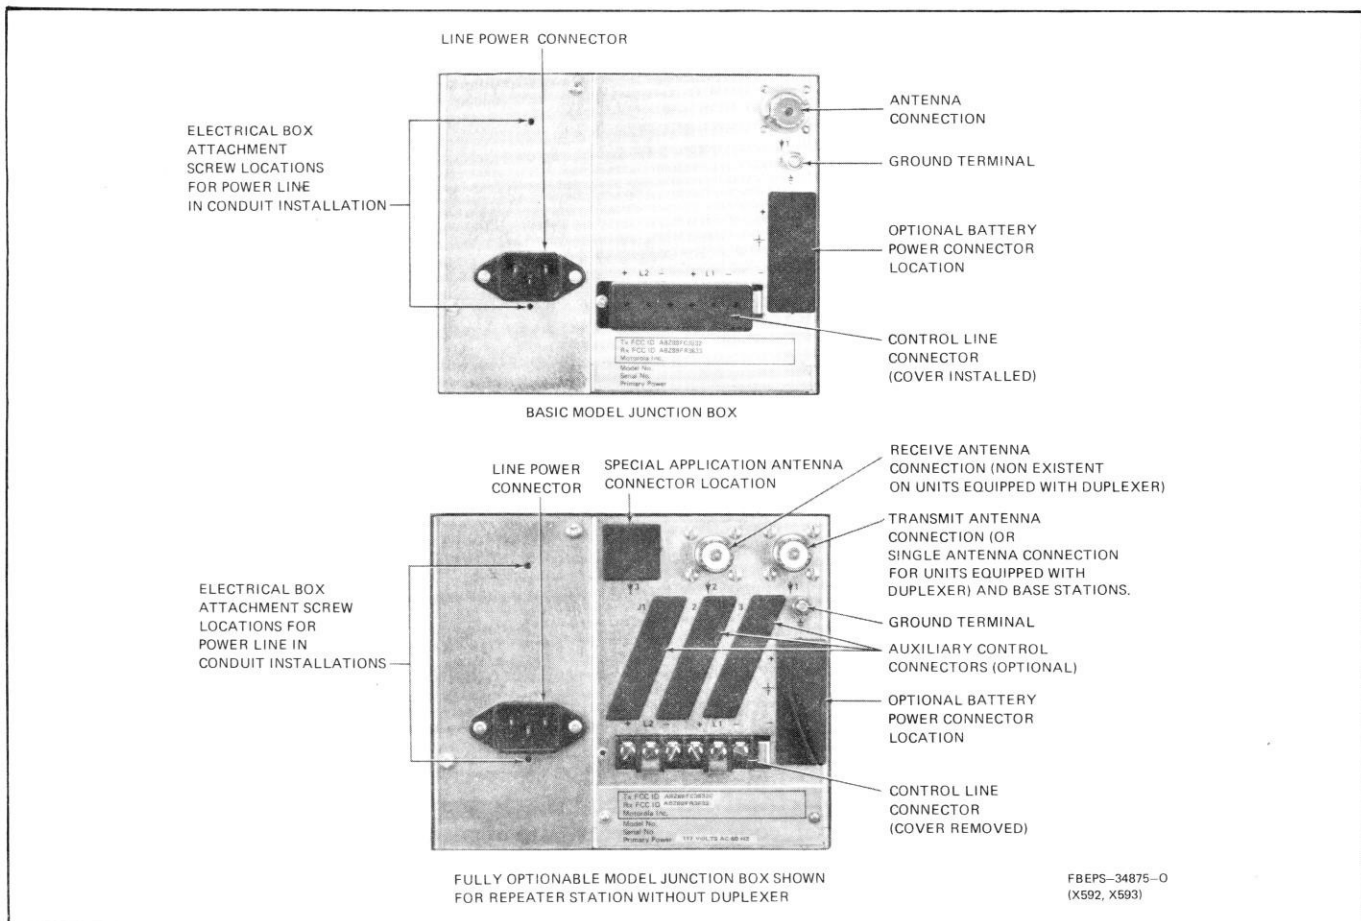

Figure 2. External Connection Details
6.1.3 All coaxial antenna cables connect to UHF coaxial connectors located on the junction box. For repeater stations without the optional duplexer, two antennas are required; one for the transmitter and one for the receiver. For repeater stations with the optional duplexer, only one antenna is required. Refer to Figure 2 for antenna connection details.
Step 2. Connect the female plug of three-wire ac line cord to the power connector on the junction box. See Figure 2.
Step 4. Attach a 4-1/8" x 2-3/8" x 1-1/2" electrical box (Appleton Catalogue No. 184-E universal code 69351 or equivalent box extension ring, not supplied) to the junction box using two #6-32 x 5/16" long self tapping washer head screws in the holes provided. See Figure 2.
Step 3. Connect the blue connector (P605, part of the TRN5155A External Battery Cable Kit) into the optional battery power connector (J605) located on the junction box. See Figure 2.